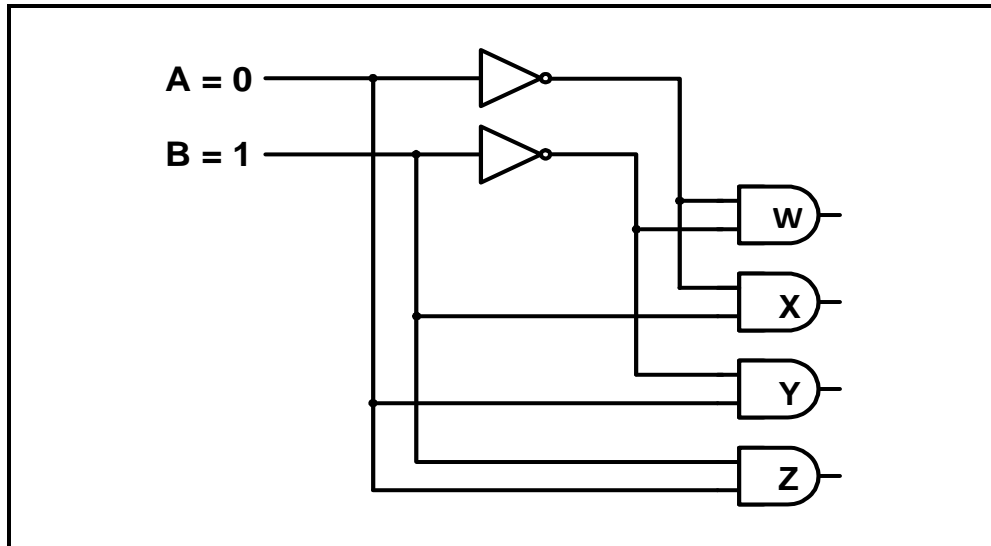

FIGURE 5.3.2
5.3.2 FIGURE 5.3.2 below shows a circuit diagram of a two-digit binary input to four-digit decimal output decoder. Determine the output at **W**, **X**, **Y** and **Z** when input **A** is '0₂' and input **B** is '1₂'.